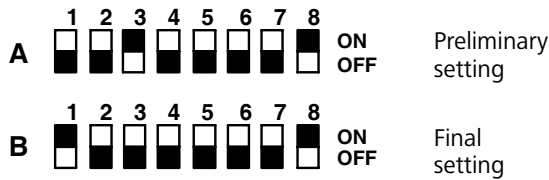

Abb. 66 DIP switch adjustment
- Place DIP switches 3 and 8 to ON as shown in A, Abb. 66. In this preliminary configuration, the condensate drain interval can be adjusted in seconds. (See also Bürkert instructions in the annex).
- Finally place DIP switches 3 to OFF and 1 to ON as shown in B, Abb. 66. In this configuration the preliminary condensate drain interval is converted in a range setting of 1.5 to 30 min. The setting of time is proportional: setting 15 sec in the time range 1.5...30 sec (preliminary setting) becomes 15 min when changing the range to 1.5...30 min (final setting). The operating time will now be 15 minutes.